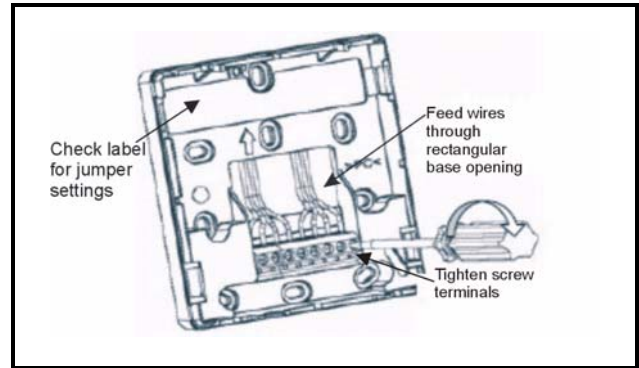

Figure 1-1 - Sensor Base Opening With Screw Terminals
2. Feed the power and signal wires through the rectangular opening in the base (*Figure 1-1*).
The jumper settings for refrigerant types are located on the label inside the MRLDS sensor cover (shown in *Figure 1-1*). Set the jumpers according to how they are indicated on the label.